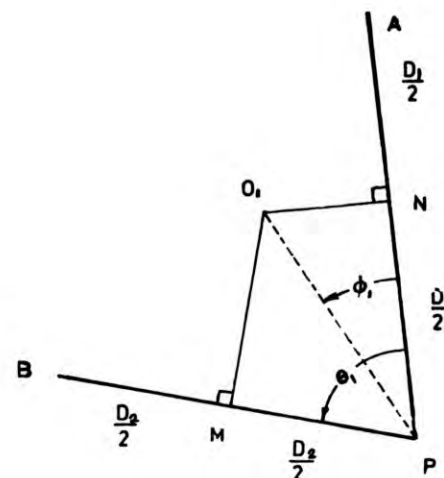

FIGURE 3
- (2) by closing the figure $PMON$ in Figure 3, on an assumed meridian, for ON , whence -